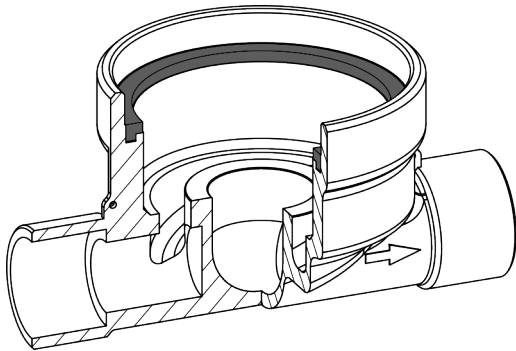

Figure 24. Installation of the profile gasket MOC/MOE
1. Insert the enclosed seal into the EAT with the plan side facing upwards (Fig. 24).